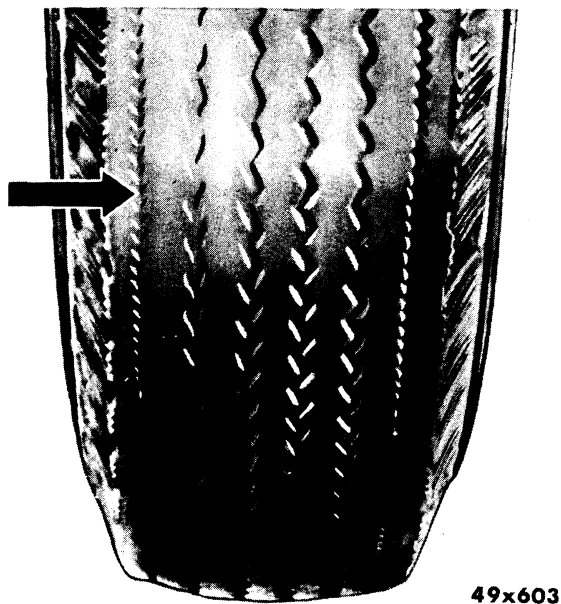

Fig. 32—Camber Wear
d. Refer to Figure 32. Excessive positive camber will develop noticeable wear on the outer ribs